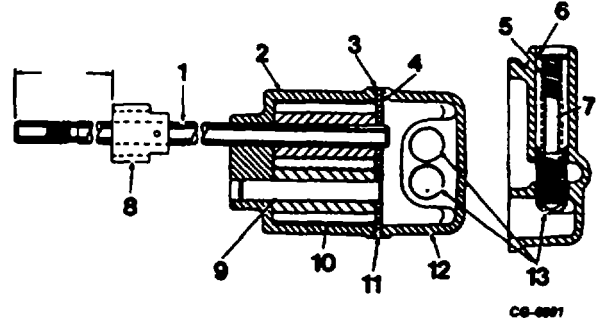

Figure 178. Sectional View of Oil Pump Assembly
11. When installing oil pump drive gear on shaft, gear should be pressed on to a 7.3 cm (2-7/8") dimension from top of gear to end of shaft (Figure 178).